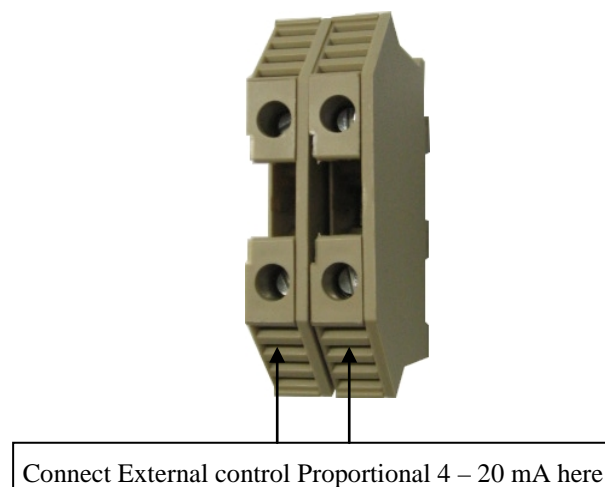

Figure: 3
3. Connect the External control signaling cable as labeled on circuit index. (also, see figure 3 below)